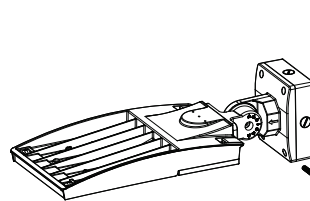

FIG. 4
5. To aim the fixture, loosen the M10 center knuckle bolt on the arm, adjust the arm to the desired angle. (see Fig. 4)